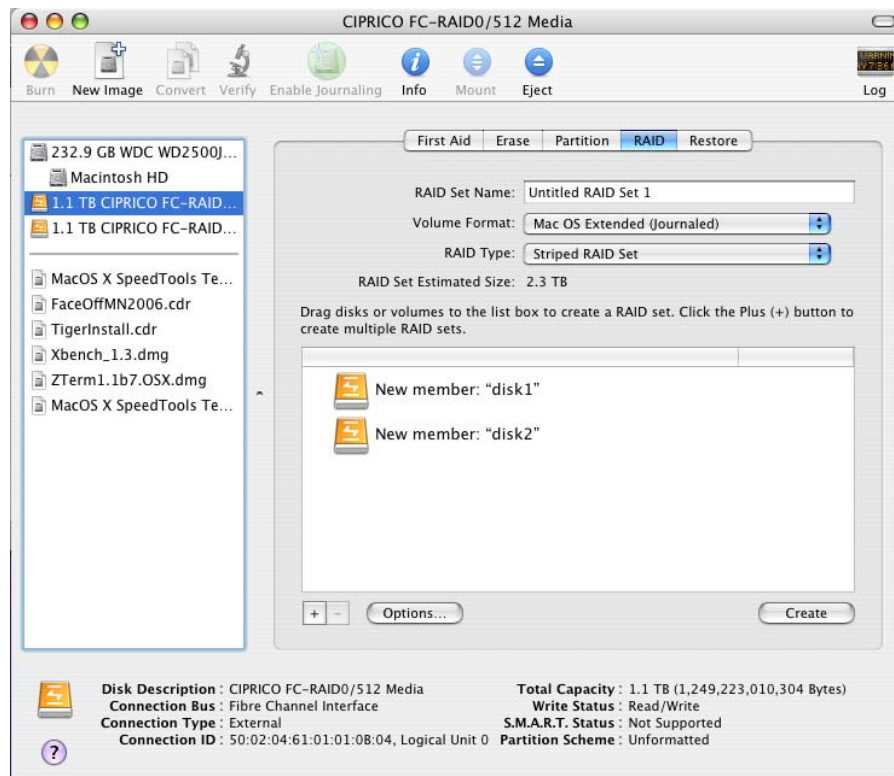

FIGURE 6-11. The Apple Disk Utility Screen, With Both RAID Icons in the Middle Section.
6. Drag the upper CIPRICO FC-RAID icon to the middle section of the screen. See Figure 6-11.
7. Drag the lower CIPRICO FC-RAID icon to the middle section of the screen. See Figure 6-11.